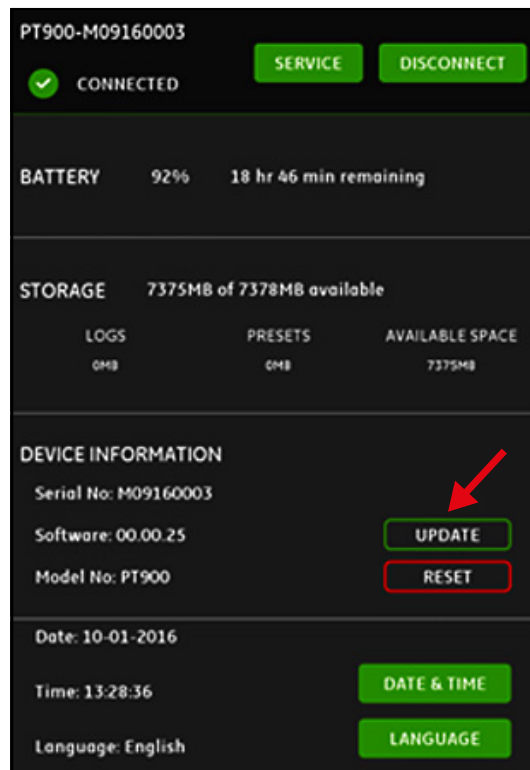

Figure 120: UPDATE Button in TRANSMITTER Menu
4. In the APP TRANSMITTER menu, click the UPDATE button (see *Figure 120* below) to start the update.